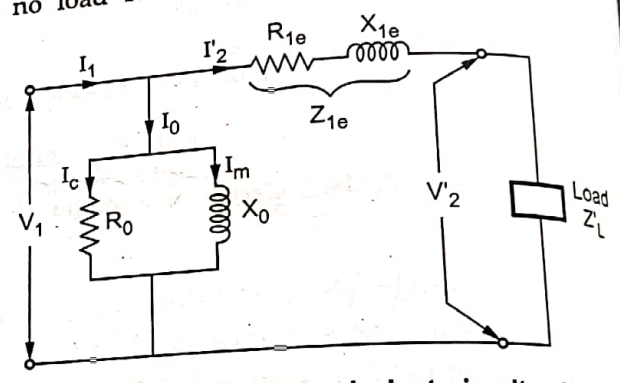

Fig. Q.16.3 Approximate equivalent circuit referred to primary
- Such an equivalent circuit is called approximate equivalent circuit as in this circuit the drop across R_1 and X_1 due to I_0 is neglected. The Fig. Q.16.3 shows an approximate equivalent circuit referred to primary.